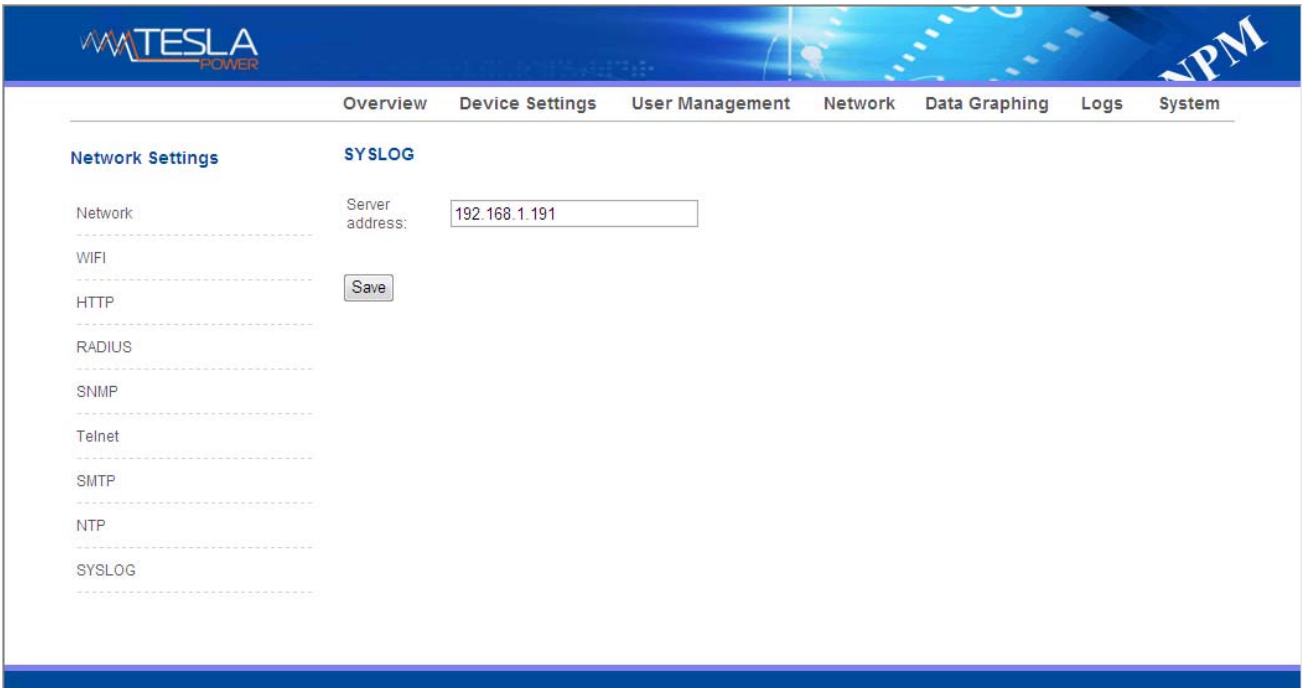

Figure 1-13
I. SYSLOG: fill in the SYSLOG server IP address as shown in figure 1-13